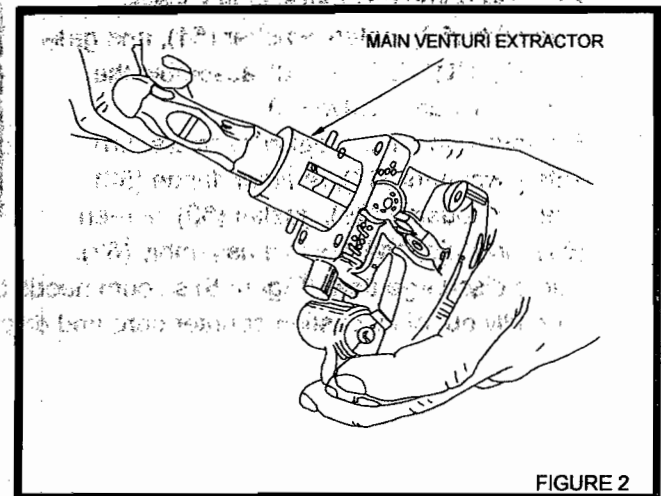

FIGURE 2
- 16) Venturi (43) seldom needs service, however if necessary, press out the venturi from the throttle valve side using tool M-120 as shown in Figure 2.